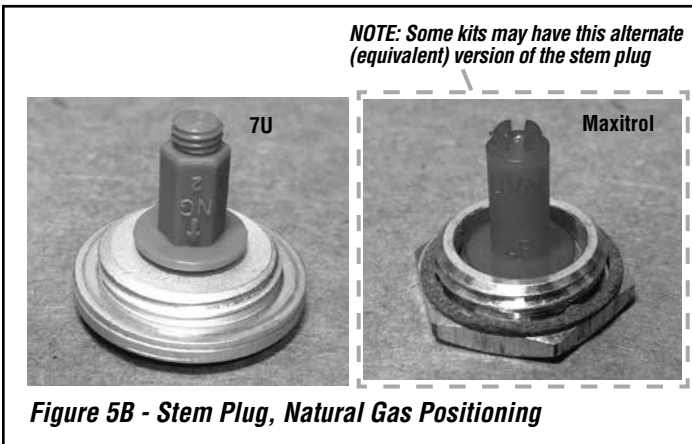

Figure 5B - Stem Plug, Natural Gas Positioning
Step 5B. *Figure 5B* shows the stem plug positioning for Natural Gas.